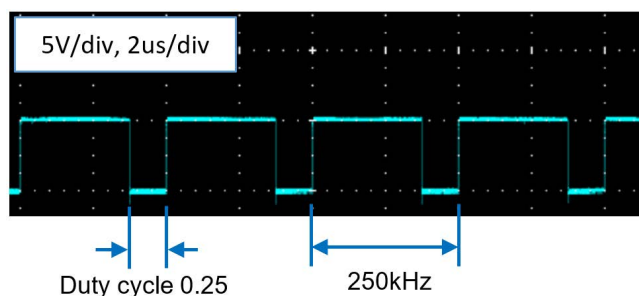

Figure 16. Vgs Voltage Waveform
3. Turn on auxiliary power supply and adjust the output voltage to DC9V or DC12V. The Vgs voltage waveform of the low-side GaN FET Q2 is shown in the Figure 16.